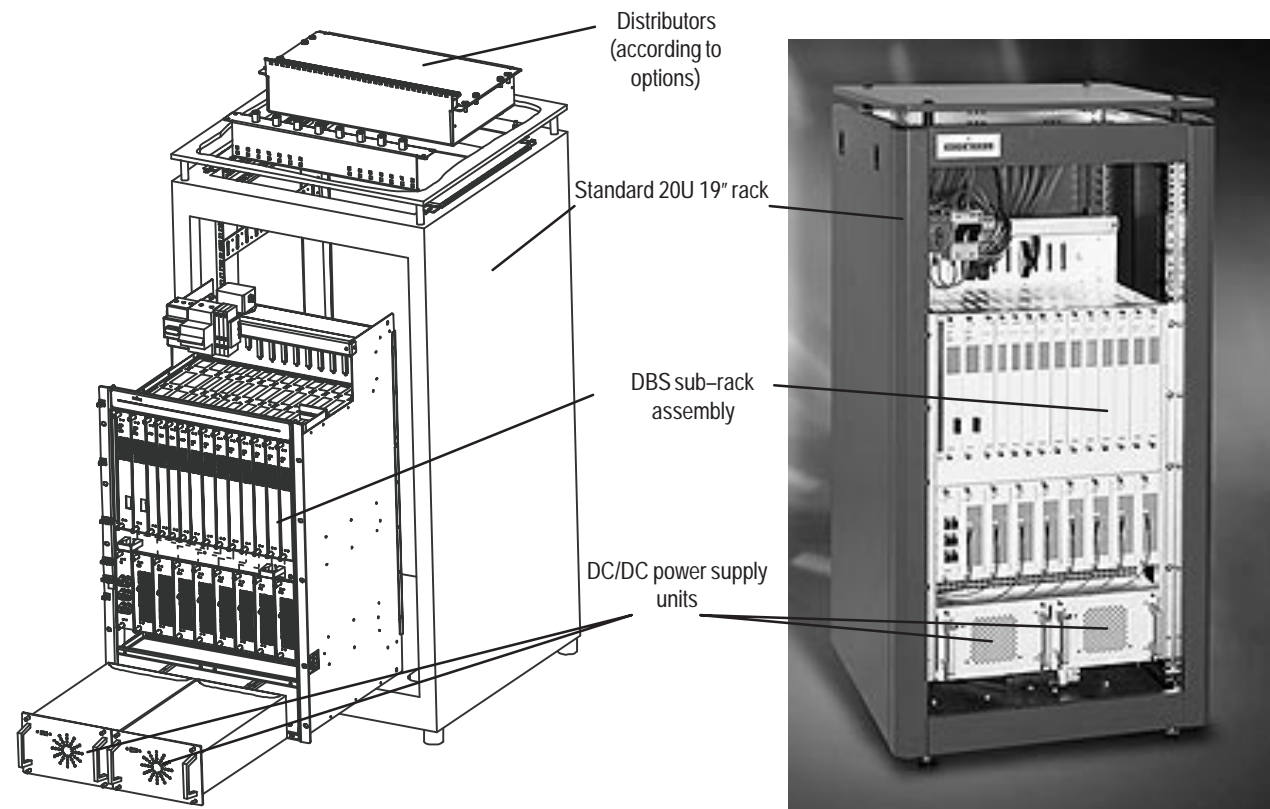

Figure 22 – Example of configuration of a 9900BS station in a standard rack
- either in a standard, 22U 19" rack (see Figure 22),